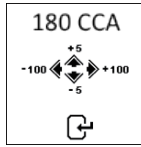

Fig.30
5. To adjust the CCA value, press ◀ or ▶ key will decrease or increase the value by 100 while ▲ or ▼ key will increase or decrease the value by 5 as shown in Fig.30 below.